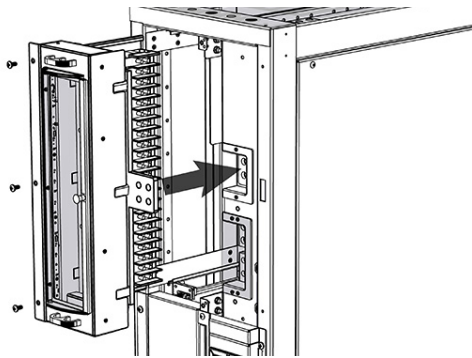
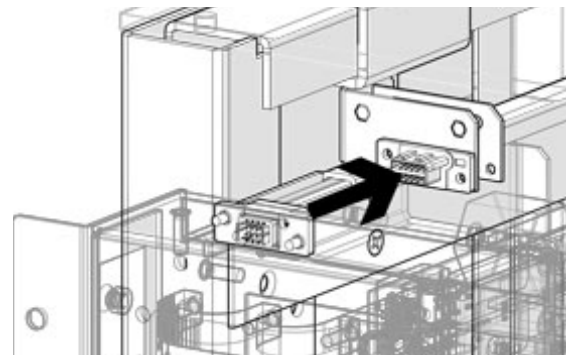

Figure 40. AM Breaker Panel Insertion
Figure 41. Panel Mount Interface Connector
- Step 3.** Carefully insert the AM breaker panel into the slot (see Figure 40; also applicable for GJ breaker panel). Take caution as to not damage the panel mount interface connector during panel insertion (see Figure 41).